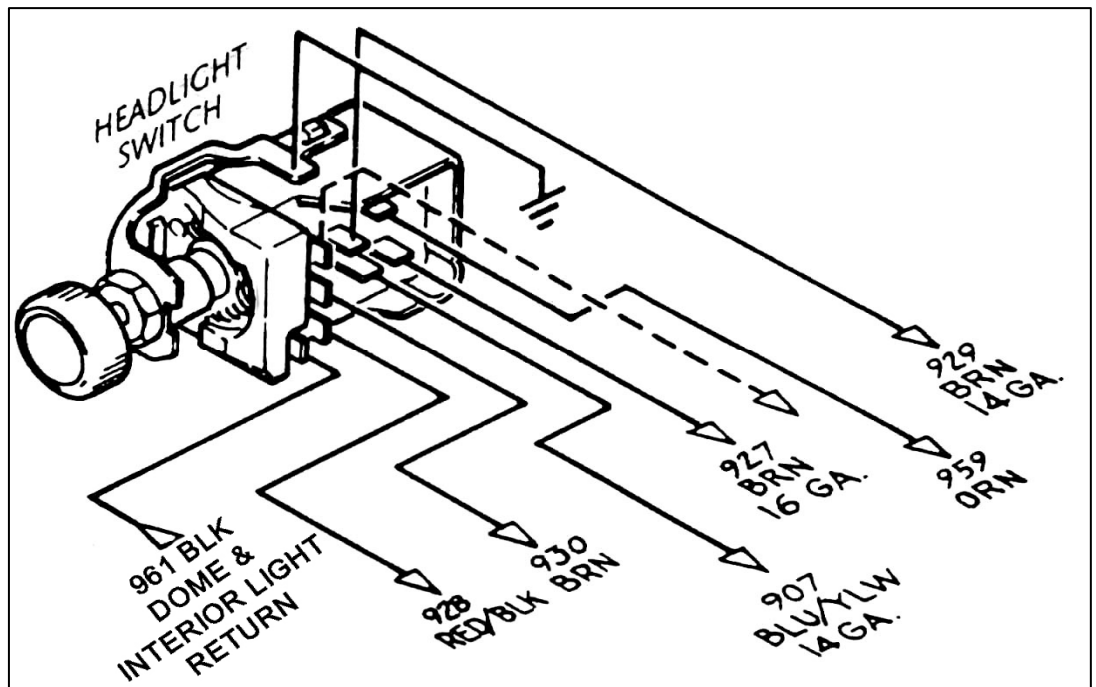

Figure 10-6 HEADLIGHT SECTION B Wiring (Painless Part #80152)
10.4.1 Interior Lights are switched through the door switches and the dash-mounted headlight switch, which is usually rotated counter-clockwise to turn on. These switches apply ground to the circuit. YOU WILL NEED TO SUPPLY THESE GROUND WIRES. 12V is continually present at the light bulbs. See **Figure 10-6**.
10.6 HEADLIGHT SECTION B Wiring. See Figure 10-6.
Note: On late-style GM headlight switches, the park lights terminal to which wire #927 (brn) is connected (shown in **Figure 10-6**) has been omitted. In this case, wire #927 must be connected as indicated by the dashed line in **Figure 10-6**.